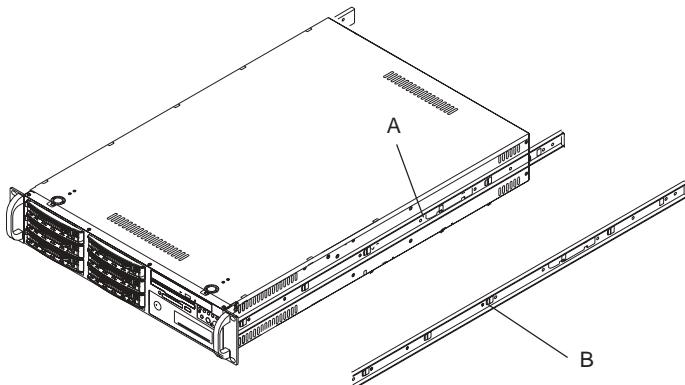

Figure 2-1. Identifying the Sections of the Rack Rails
You should have received two rack rail assemblies with the SuperServer 6022L-6. Each of these assemblies consist of three sections: an inner fixed chassis rail that secures to the 6022L-6 (A) and an outer fixed rack rail that secures directly to the rack itself (B). A sliding rail guide sandwiched between the two should remain attached to the fixed rack rail. (See Figure 2-1.) The A and B rails must be detached from each other to install.